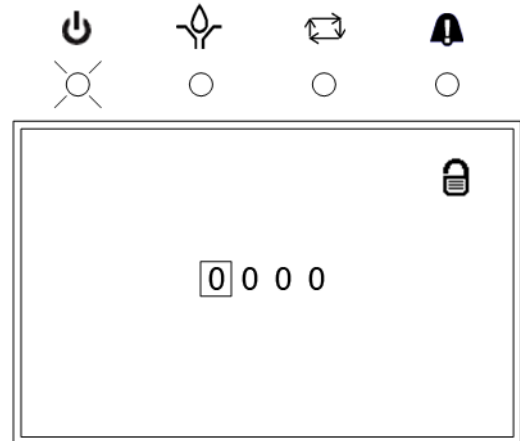

FIG. 21
- To access Setup Mode, hold down the ENTER key for 3 seconds. The PIN ModeScreen shown in FIG. 21 displays.
- The Pin Mode screen shown in FIG. 21 only displays when the PIN mode is enabled. For setting up systems when the PIN mode is not enabled, go to System Setup instructions on page 18.
- Before the PIN Mode screen shown in FIG. 21 can display, the PIN Mode must be enabled in an previous setup sequence. See PIN Setup, page 25.
- The PIN Mode screen in FIG. 21 displays.
- Use the LEFT / RIGHT arrow to position the cursor over the first blank PIN Code prompt field (FIG. 21).